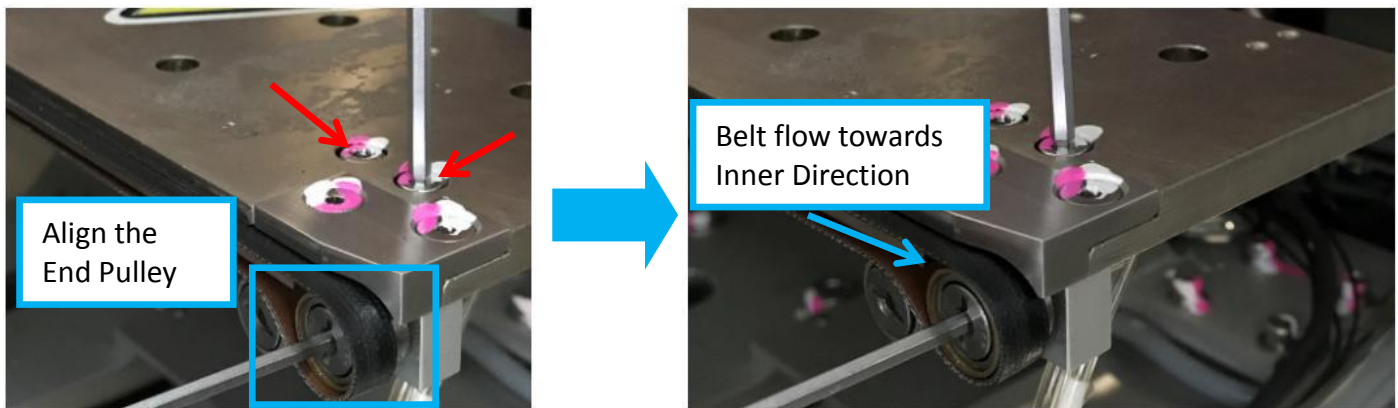

Figure 24 End Pulley Alignment
- f) Align the End Pulley until Belt Flow towards Inner Direction as below Figure 24. Tighten 2 x Screws after desire alignment achieve